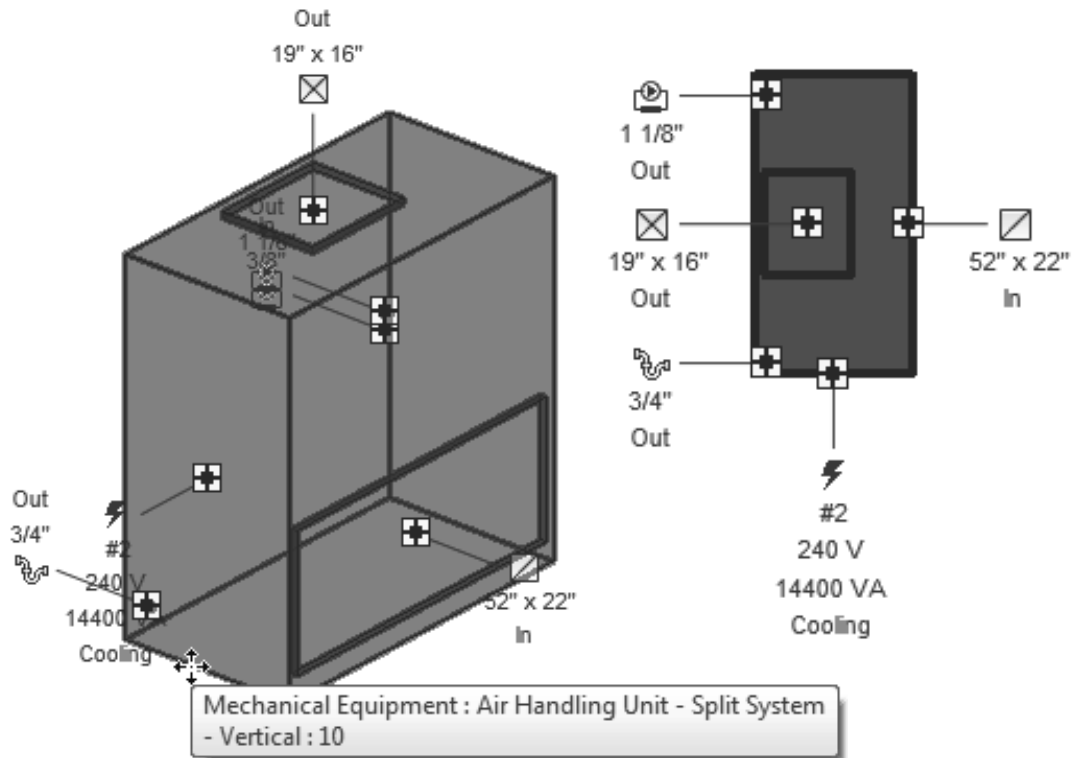

Figure 2–14
- Take time to get to know the components that come with the Autodesk Revit software. Their most critical content are the connectors, as you see in for a piece of mechanical equipment in Figure 2–14.
2. In the Type Selector, select the type/size you want to use, as shown in Figure 2–15.